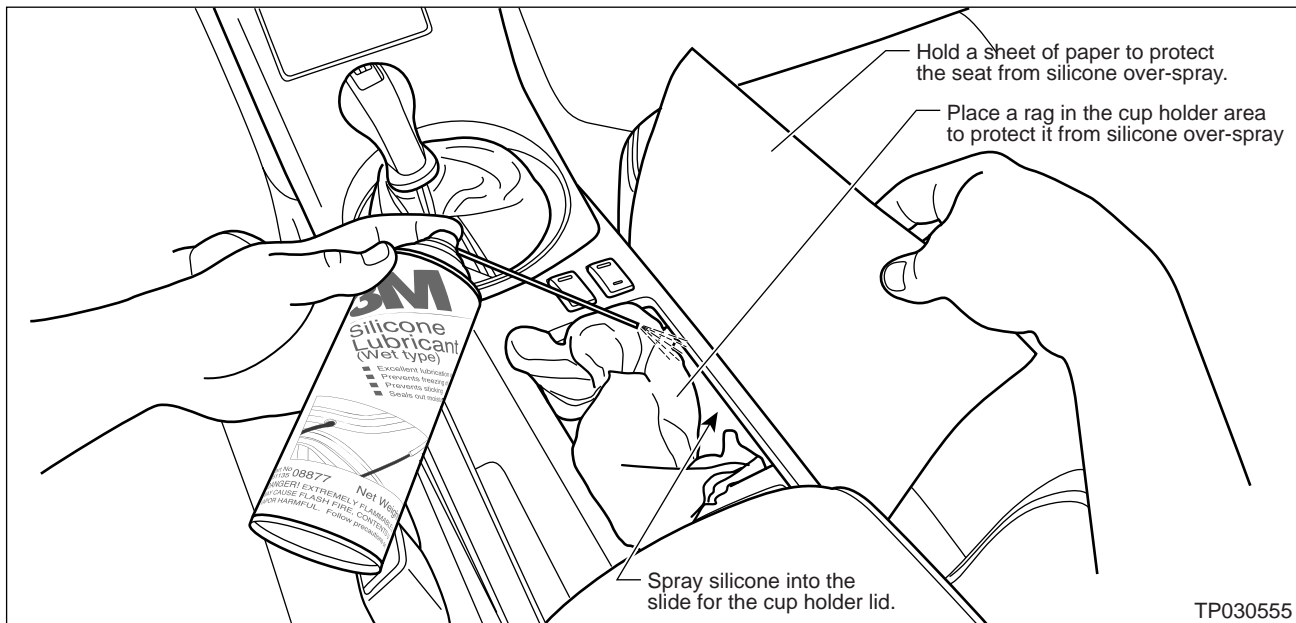

Figure 9
2. Spray "3M Silicone Lubricant Plus, Wet Type" into the cup holder lid slides (see figure 9).